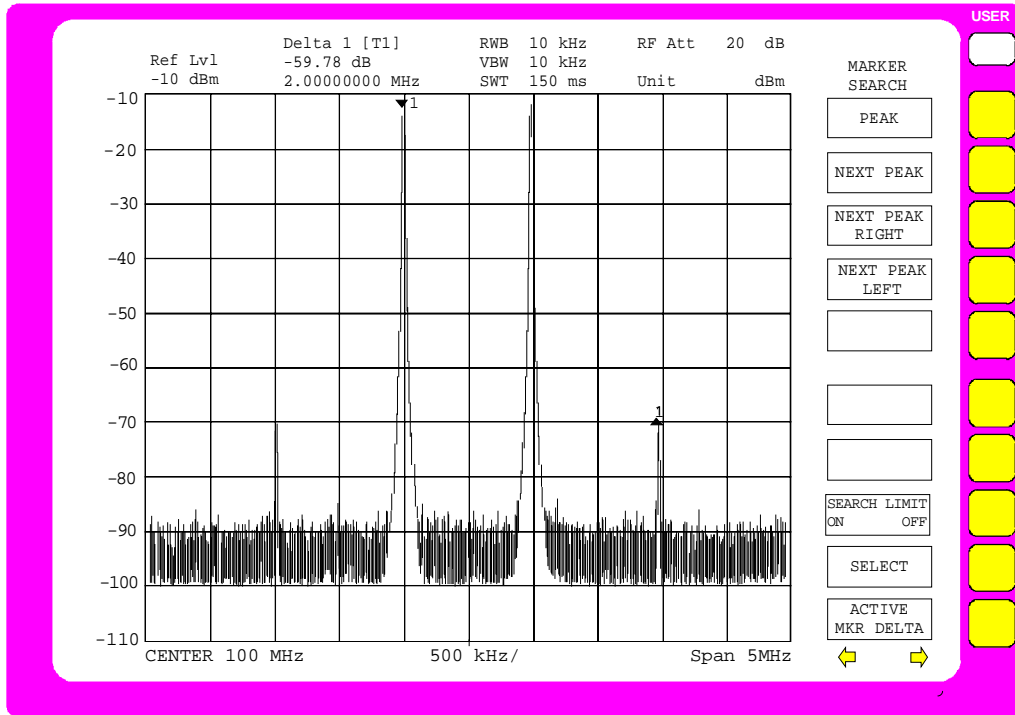

Fig.2-13 Measuring diagram in low distortion mode
The FSIQ shows the measuring diagram in Fig.2-13
If the amplitude of the IM products doesn't change, the existing setting is sufficient (see Fig.2-13)
- Move the marker to an intermodulation product using the roll-key (see Fig.2-13).
- Press the *NEXT PEAK RIGHT* softkey until the delta marker appears on one of the IM products (see Fig.2-13).
**8. Calculate IP3 from the measured offset and the signal level according to (4)**